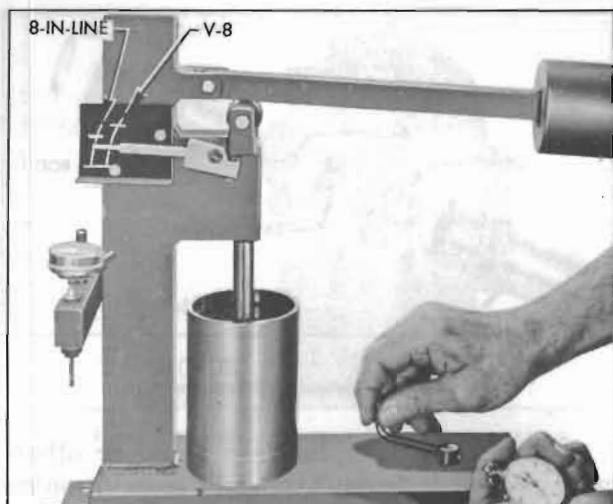

Figure 2-27—Checking Leakdown Rate
4. Lower the ram to rest in the lifter push rod seat, then lower the weight arm to rest on the roller of ram as shown in figure 2-27.
6. Raise weight arm to allow the lifter plunger to come up to its retainer, then lower the arm to rest on the ram roller. As the pointer starts moving upward start rotating the fluid cup by turning the handle one revolution every two seconds. See figure 2-27.
7. Use a stop watch to check the time required for the pointer to move from the lower to the upper mark on scale where marked "BUICK V-8." The cup must be rotated during this test. See figure 2-27.